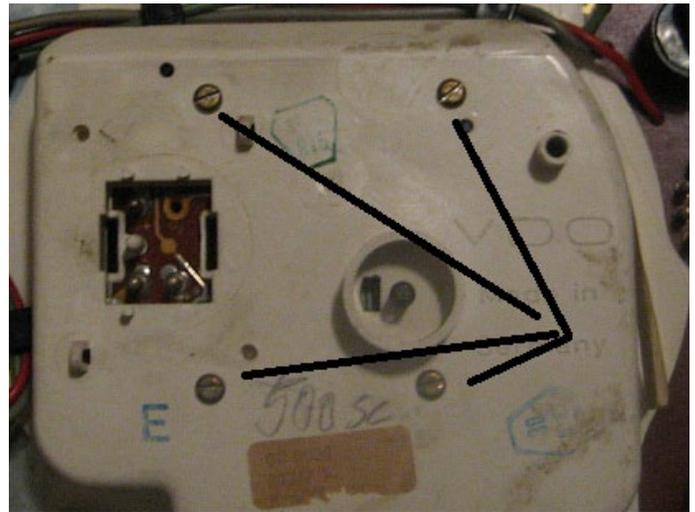

Figure 1
2. Flip the cluster face down on a towel or carpet, and remove the screws as shown in Figure 1.